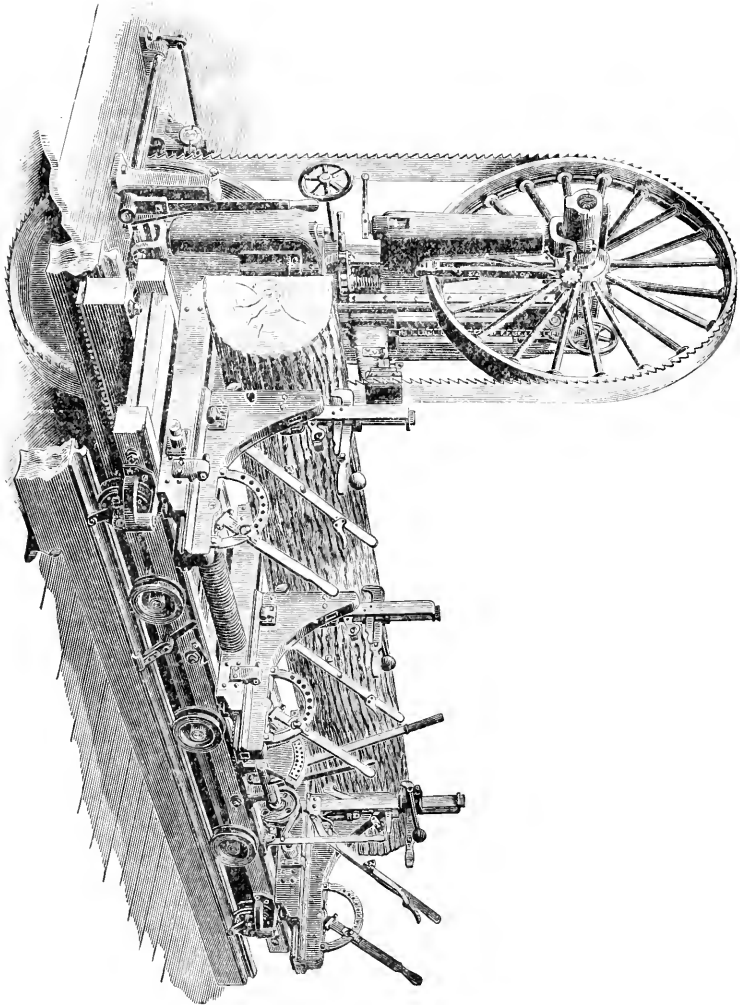

FIG. 44 A—BAND SAW MILL.
**44. Large Band Saws--**The band saw is used in preference to the circular saw in large mills. The circular machine is used in the small portable outfits. A right hand band saw mill is shown in Fig. 44 A.